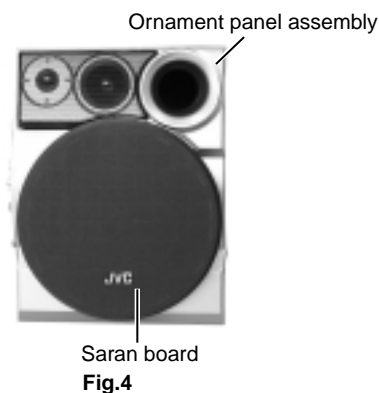

Fig.4
■ Removing the ornament panel assembly (See Fig.4 to 8)